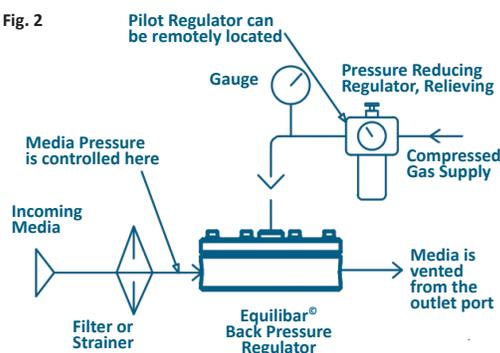

Fig. 3
**Typical Circuits:** A back pressure regulator is used to control the pressure in a system by venting any excess flow that would otherwise cause the system pressure to increase above the pilot setpoint pressure. In the example circuit shown, the BPR is used to control the outlet pressure of a pump (see Fig. 3). Excess fluid is vented through the BPR back to the fluid reservoir.